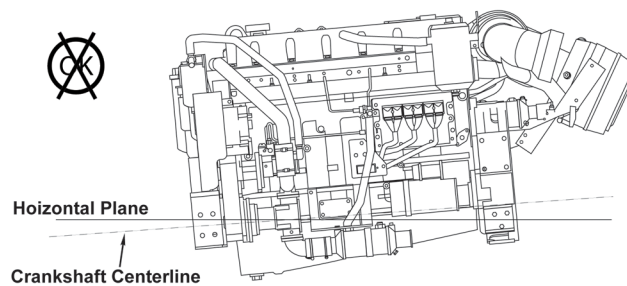

Figure 4-8: Nose Down Condition
The engine must be level or nose up during coolant fill and engine start-up so that the engine block, cylinder heads, and turbocharger will deaerate properly and completely fill with coolant. Operating an engine with the nose down (see Figure 4-8) can hinder proper venting and allow an air pocket to form at the rear of the cylinder head and/or turbocharger. This may cause localized overheating and possible engine damage.
If a flexible engine mounting system is used, the proper support bracket locations must be used for mounting the engine and gear (see Figure 4-8). Use the mounting pads on the marine gear (1) and at the front of the engine (2) to absorb the propeller thrust.